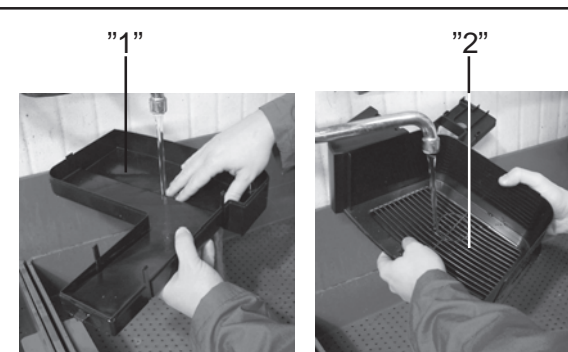

Fig.45
- brewing outlet - clean inside and outside - (fig.45 ref. 1 and ref. 2)